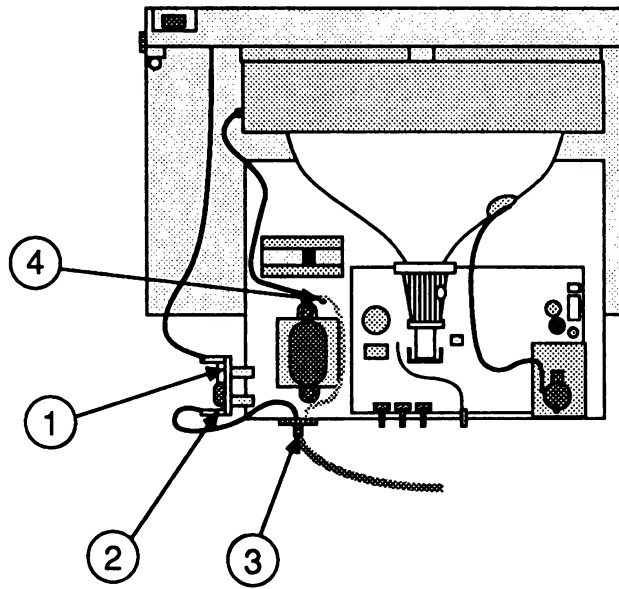

FIGURE 3
9. Locate the line filter board (Figure 3, #1), the AC IN connector (Figure 3, #2), and the monitor power cord (Figure 3, #3).
- a) If the power cord's green ground wire attaches directly to the monitor chassis (Figure 3, #4), the monitor is properly grounded. Proceed to step 19.